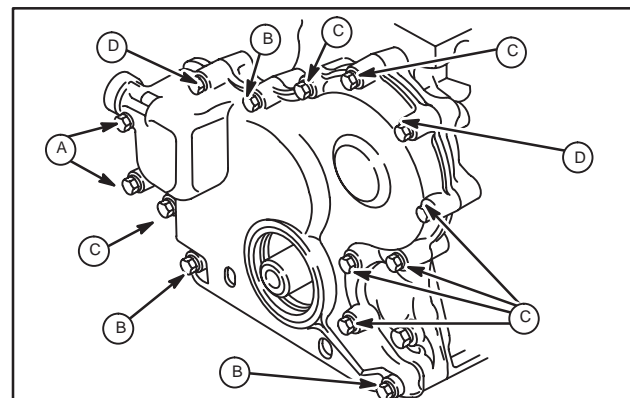

Fig. 17 – Installing Timing Cover
8. Install timing gear cover with new gasket. Note position, length and number of screws as shown, Fig. 17.